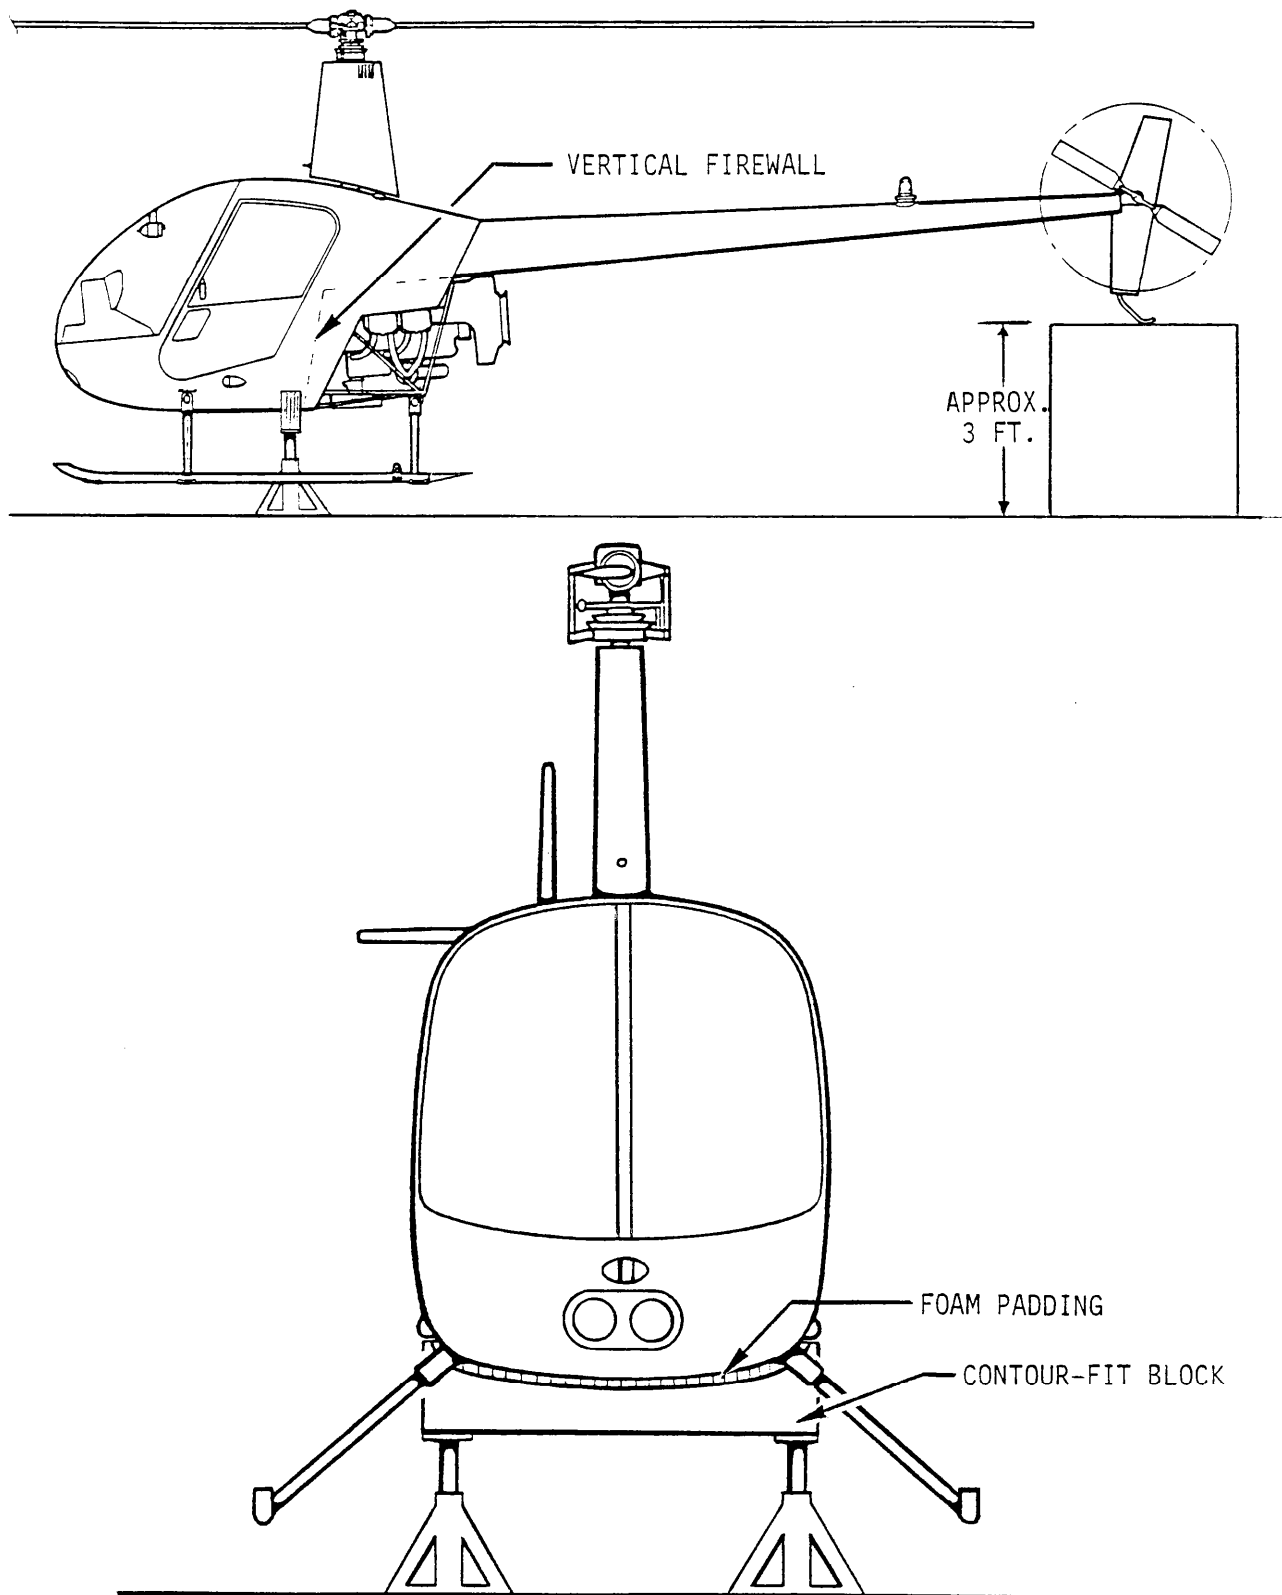

FIGURE 5-1 JACKING OF THE HELICOPTER
- I. Place a foam-covered contour block under the vertical firewall (see Figure 5-1). Install skid stand under tail. Using a jack under each end of contour block, raise helicopter until skids clear ground by approximately 4 inches.